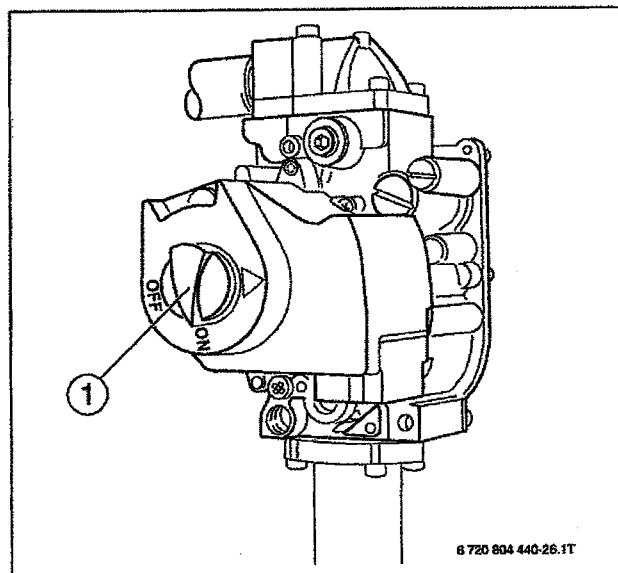

Fig. 26 Gas valve
- Observe main burner flame through the sight glass (→ figure 22, page 16) in the burner plate. The flame must show a steady and stable body and generally be of bluish color. If the main burner flame meets the requirements, proceed to the next step. If the main burner flame is weak, yellow, or goes out, turn the ON/OFF knob (→ figure 26) on the gas valve clockwise to OFF. Close the gas shut-off and disconnect the heating system from the main power source and contact the customer service technician or the gas company.